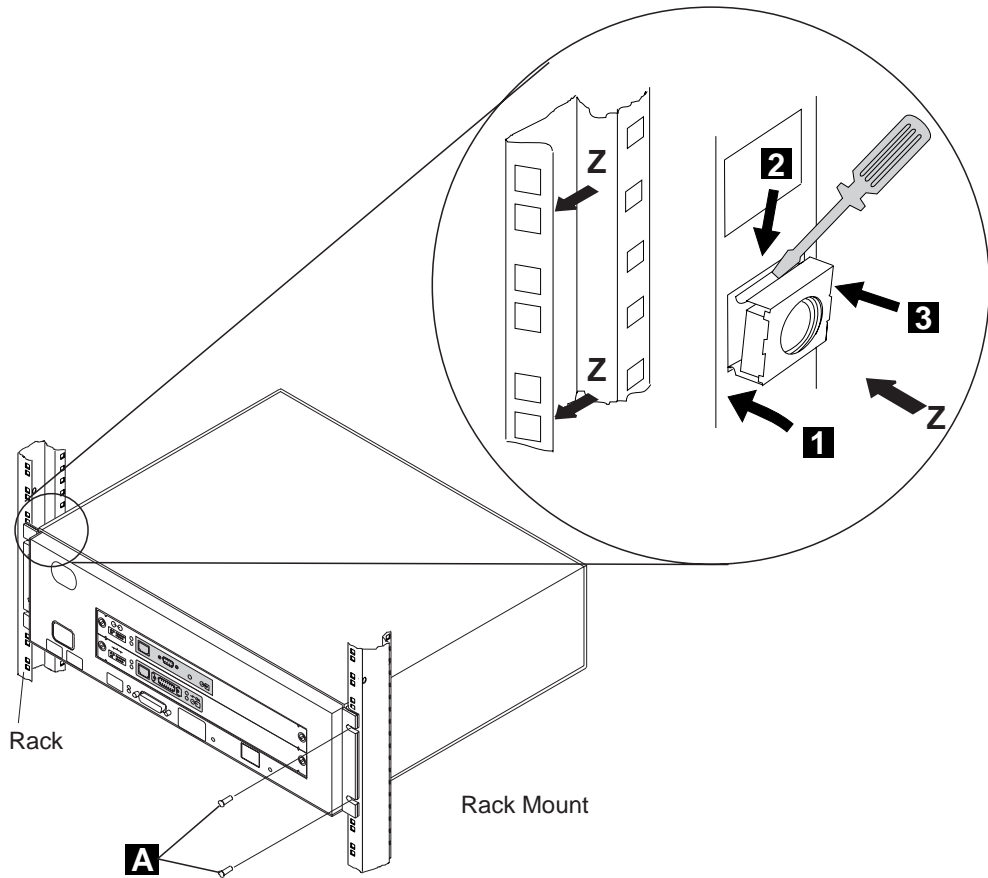

Figure 2-24. Captive Nuts and Ethernet Bridge Installation
- e. \_\_\_\_ Install four captive nuts **3** (PN 58G5766) in the proper locations **Z**, refer to Figure 2-24 on page 2-20.